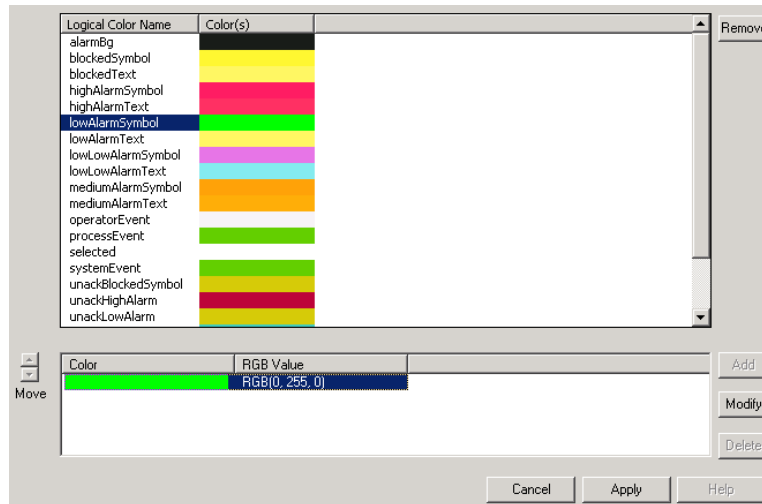

Figure 123. Logical Color Override Dialog with Colors Added
2. Select the logical color name you want to modify, then highlight the RGB value in the second section of the dialog box. See Figure 123.